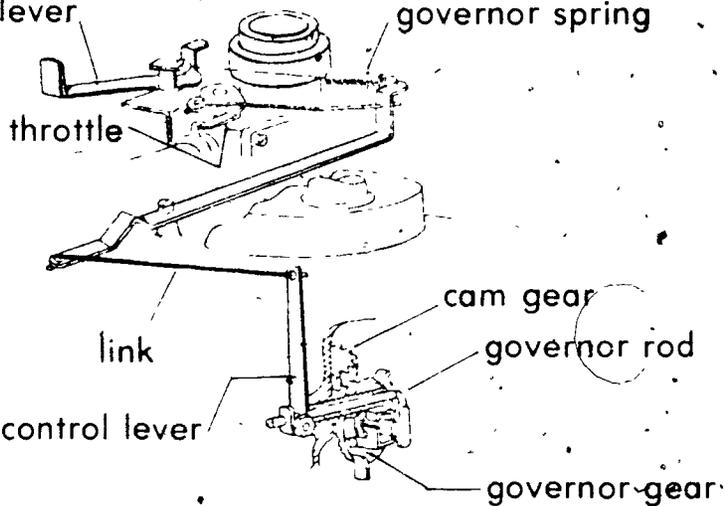

FIGURE 1
D. Adjust throttle to open position if necessary (Figure 1)